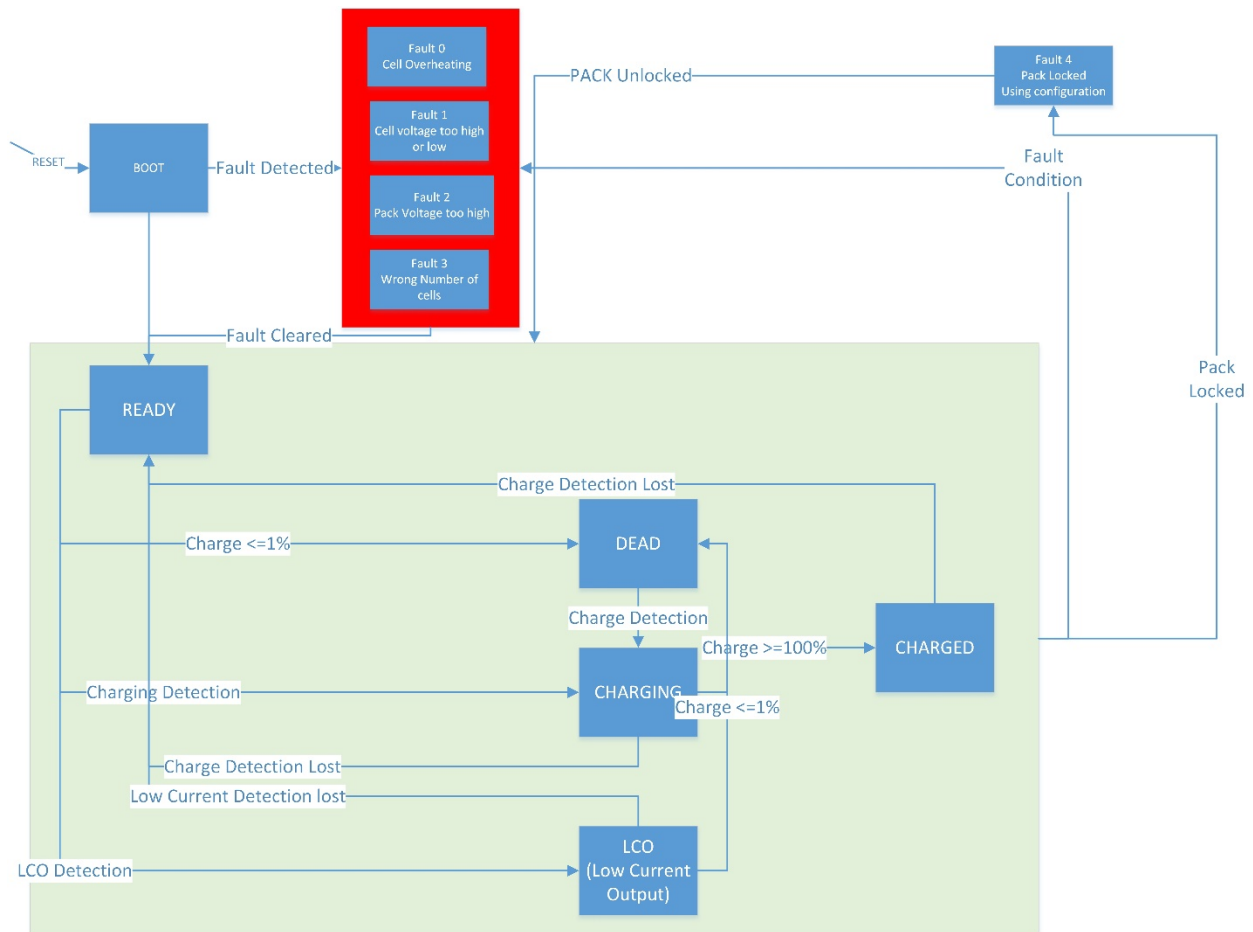

Figure 6. PacMAN State Machine.
- **Pack State:** The PacMAN monitors the state of the pack (charging, dead, fault [0,1,2,3,4], low current output, ready, etc). The state machine utilized within the PacMAN firmware is shown within Figure 6 below. The 4 types of fault result for the following cases: